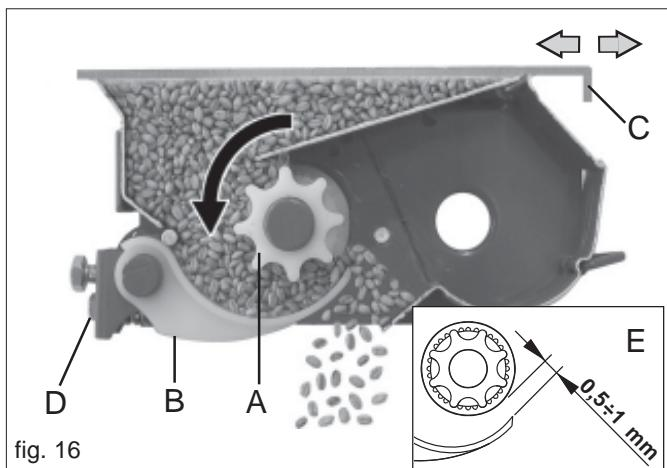

fig. 16
When the bottom plate (**B** Fig. 16) are correctly positioned they ensure smooth and steady distribution of the seeds.
- 3) using screw (**D**), adjust the distance between the feeler pin and the distributing roller to between 0.5 and 1 mm (**E** Fig. 16).
The seed gates for (**C** Fig. 16) closing off the seed flow from the hopper have two positions: